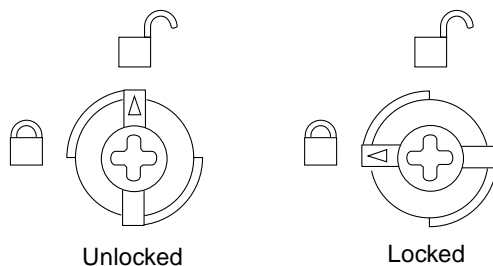

FIGURE 7-2 Quarter-Turn Access Slot
3. Use a Phillips #1 screwdriver to unlock the quarter-turn access slots (FIGURE 7-2) on the power supply.
8. Use a Phillips #1 screwdriver to turn quarter-turn access slots to the locked position (FIGURE 7-2).